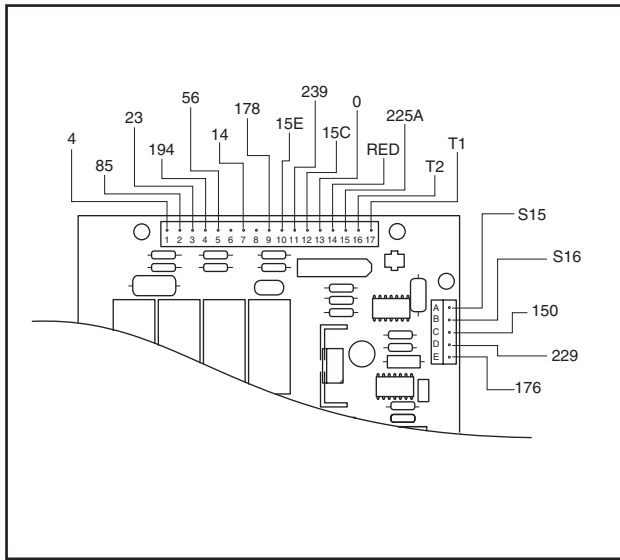

Figure 6. Check Circuit Board Power Input and Output
1. See Figure 6. Connect the positive (+) test lead of a DC voltmeter (or a VOM) to terminal 4 of the AUTO-OFF-MANUAL switch.